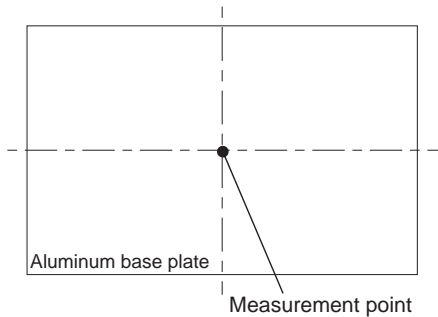

Fig.8.2.3 Measurement point (CES Type P option “B”, “BT”)
- Use with the convection cooling or the forced air cooling. Use the temperature measurement location as shown in Fig.8.2.1 to Fig.8.2.3 below the regulated temperature. Refer to Fig.8.1 for derating curve. Ambient temperature must keep bellow 85°C.
Use the temperature measurement location as shown in Fig.8.2.3.
Use the temperature measurement location as shown in Fig.8.2.1 to fig.8.2.3 at 120°C or less.